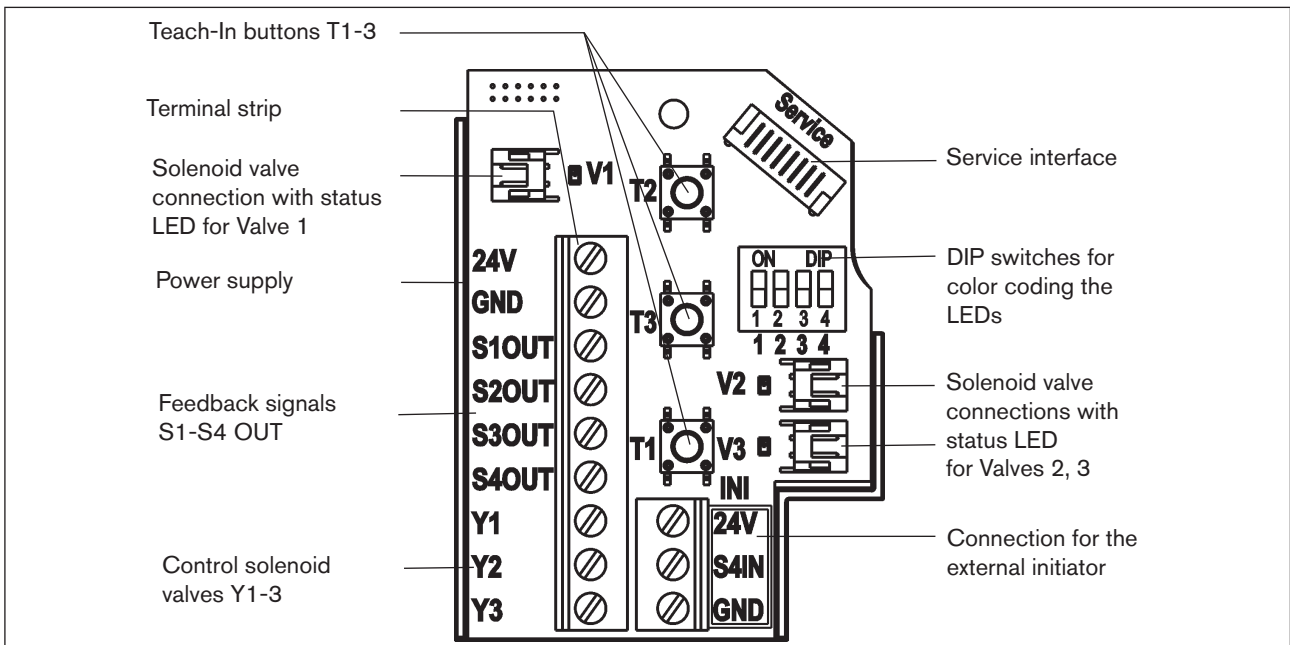

Fig. 15: 24 V DC electronics module
- Connect the wires to the connection terminals according to the connection configuration described in "Fig. 15".